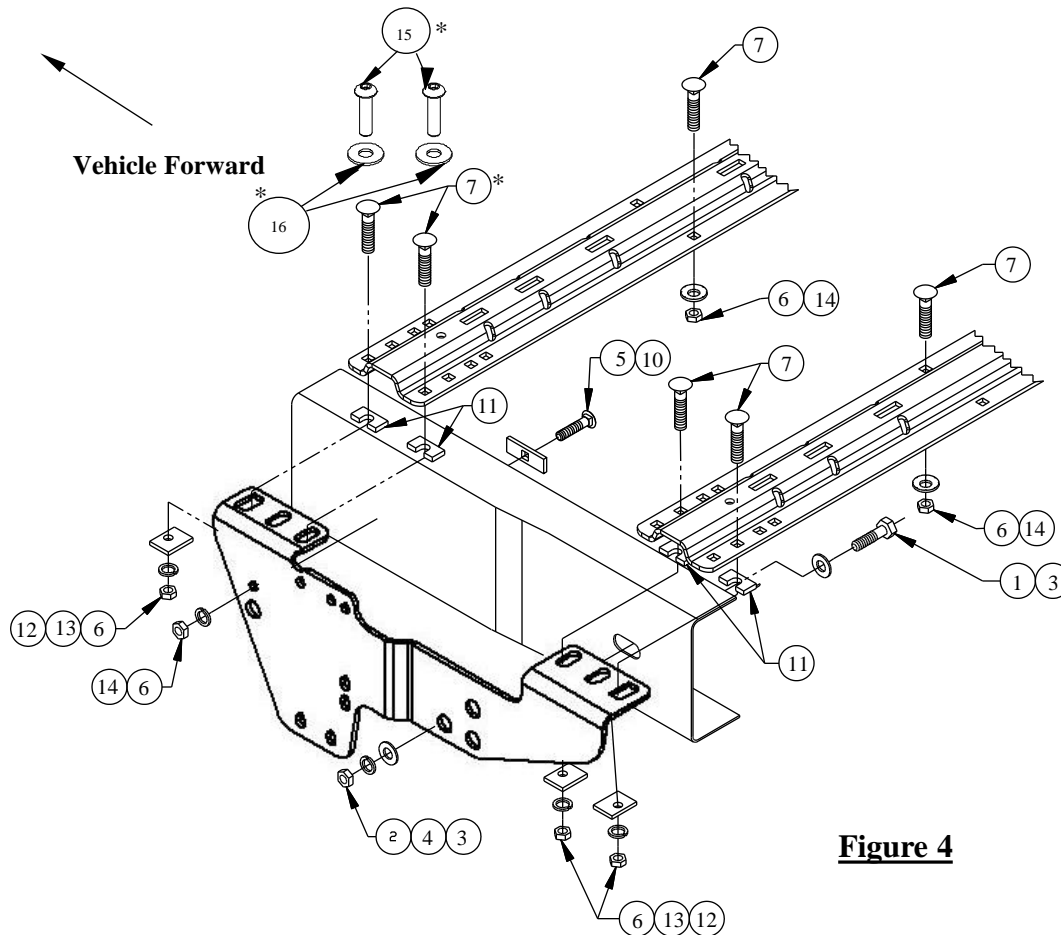

Figure 4
6. Position the frame brackets with the 9/16" holes drilled in step 5 and using the frame brackets as a template, drill 1/2" hole through the vehicle frame rail and fasten the frame brackets to the vehicle frame rails as shown in Figure 4.